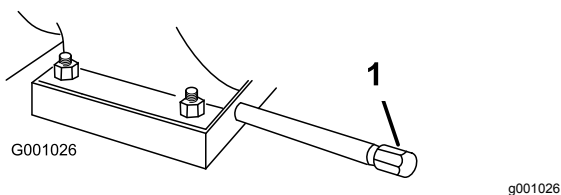

Figure 31
1. Clean the area around the oil-drain cap (Figure 31).